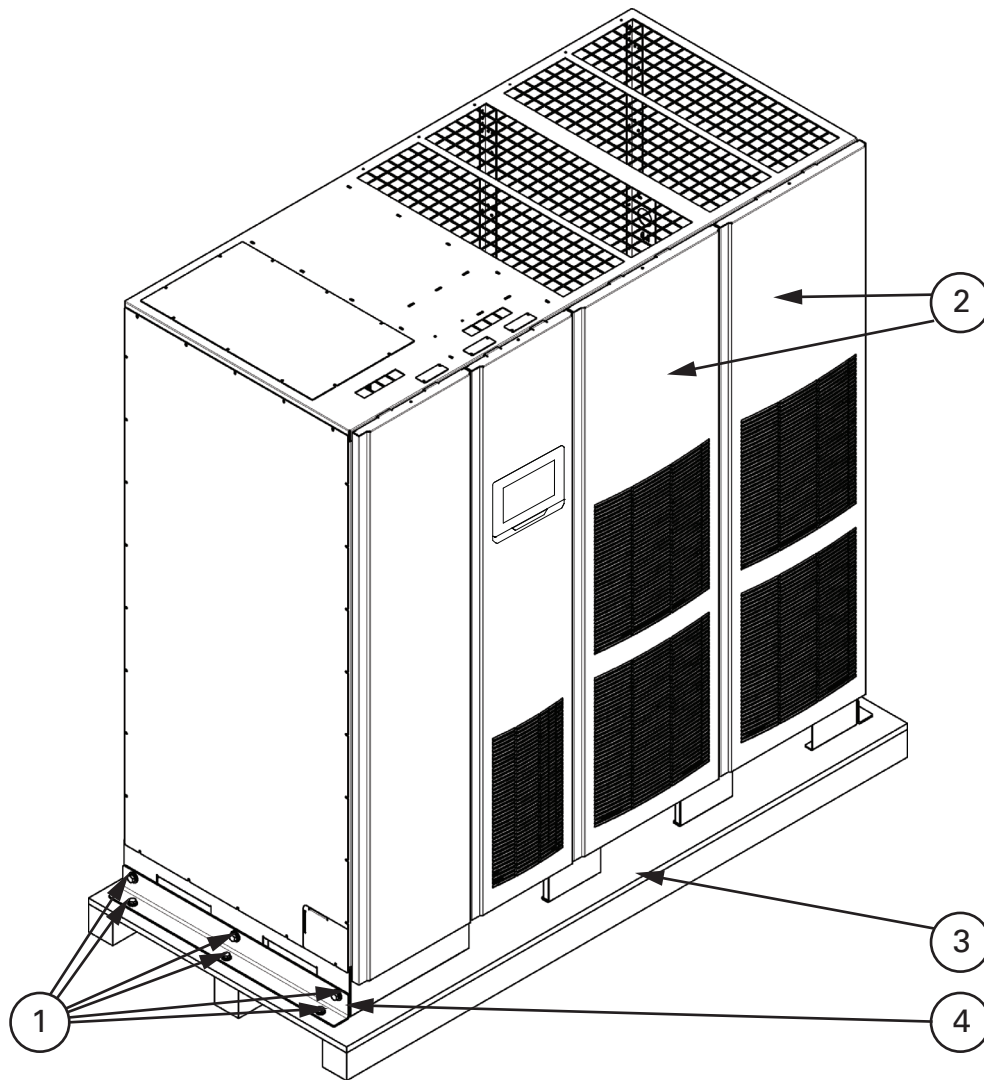
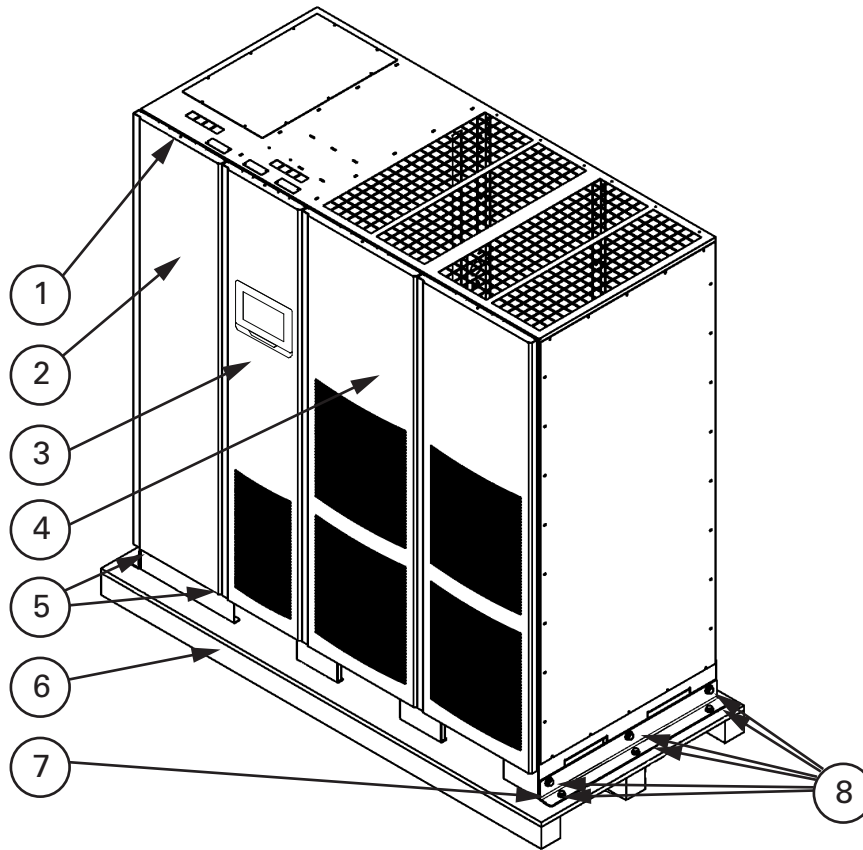

Figure 4-1. Removing left side shipping bracket, ISBM and FI-UPM
Figure 4-2. Removing right side shipping bracket, ISBM and FI-UPM
2. Remove the three bolts securing the left side shipping bracket to the cabinet and three bolts securing the bracket to the pallet (see Figure 4-1). Remove the left shipping bracket. If permanently mounting the cabinet, retain the shipping bracket and securing hardware for later use.
9. Using the retained hardware, reinstall the shipping brackets removed in Steps 2 and 3 to the left and right side of the UPS cabinet with the angle facing outward (see Figure 4-1 and Figure 4-2).
2. If not already accomplished, remove one top screw and two bottom screws securing the UPS left front panel (see Figure 4-2 on page 32). Lift the panel straight up to remove it from the panel hanger bracket at the top of the cabinet.